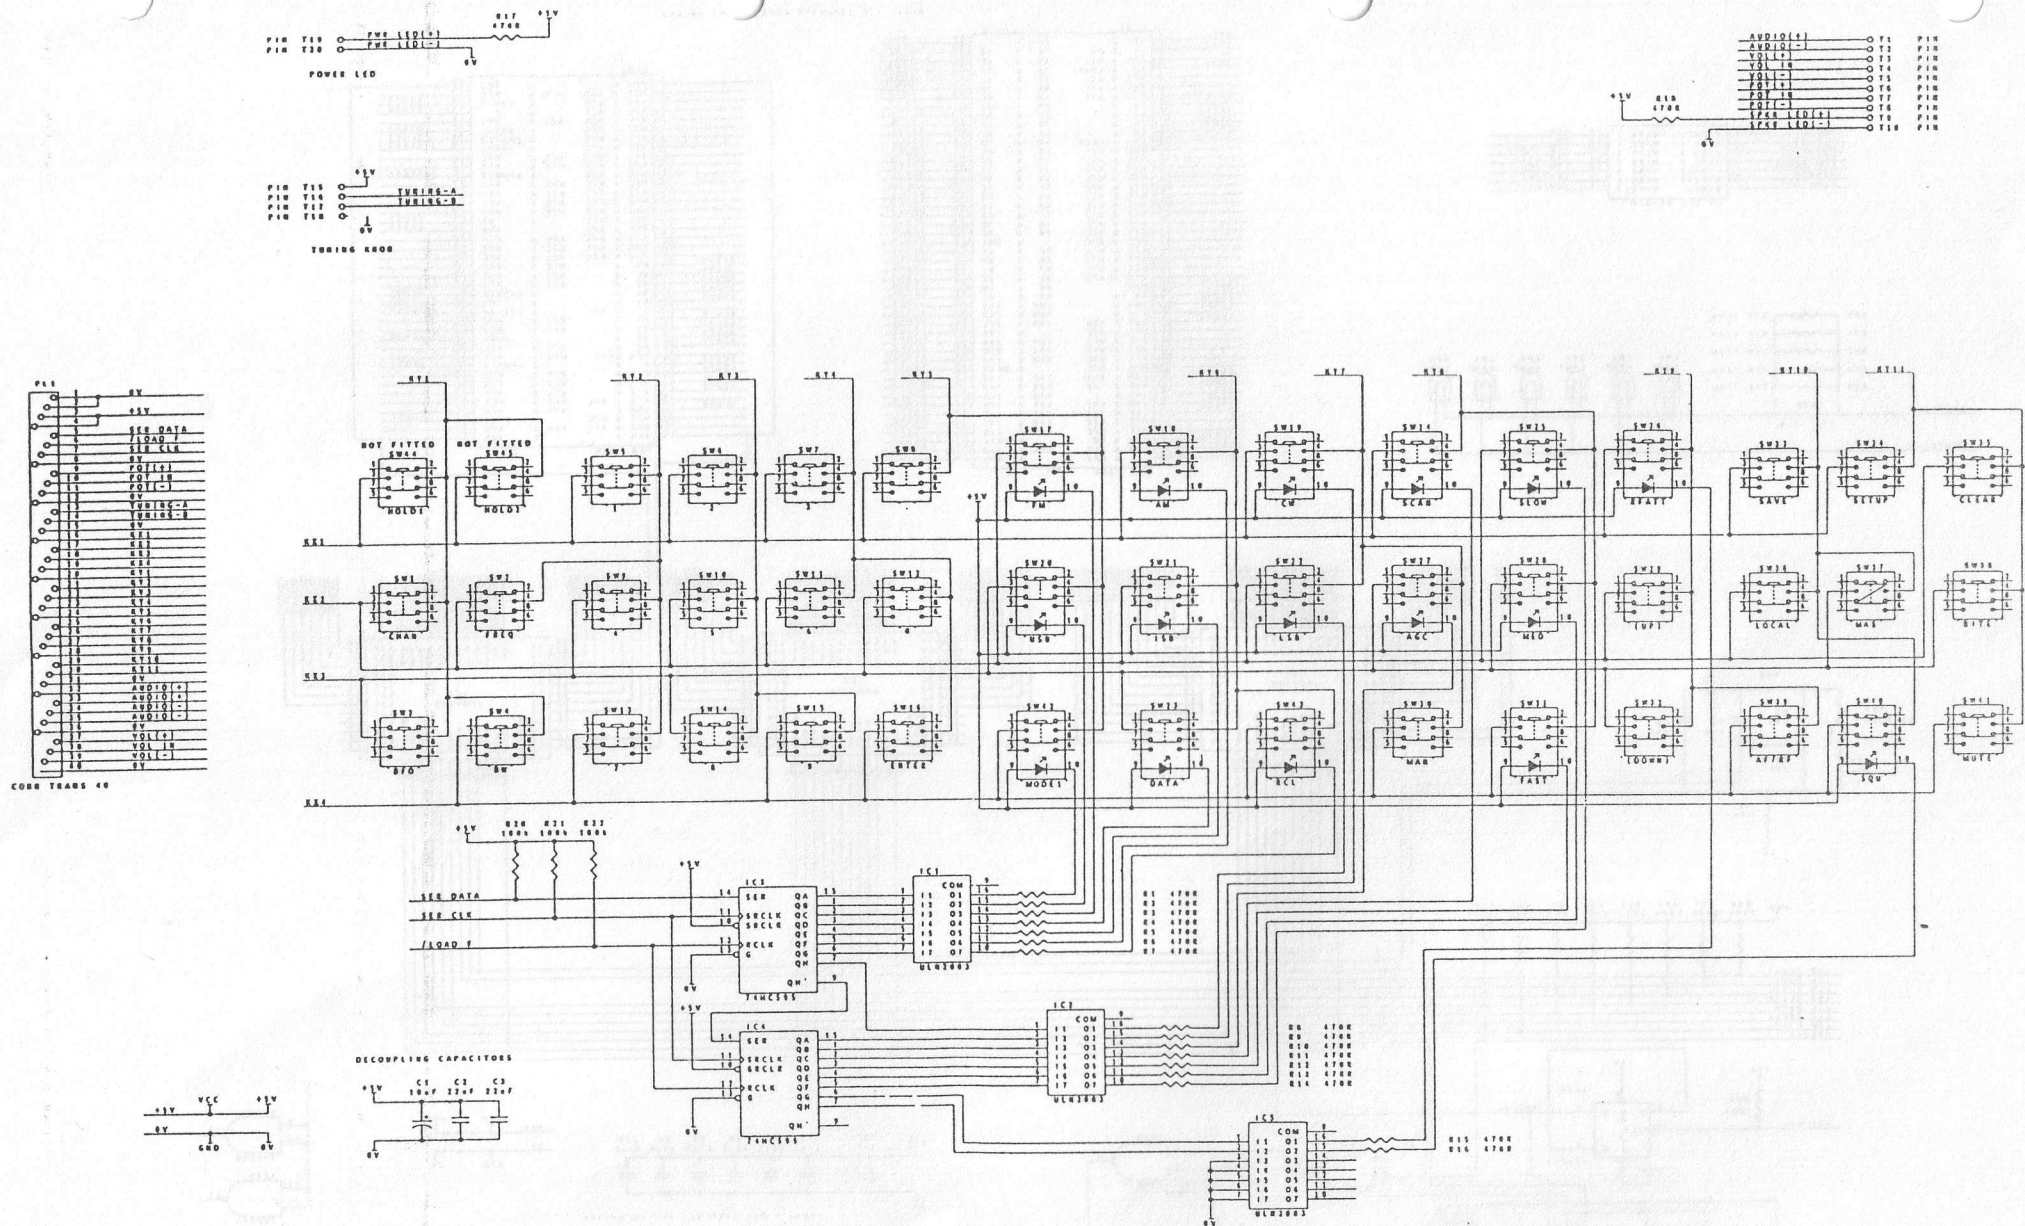

Figure 8 - Keyboard Assembly Circuit Diagram
- Figure 8 RF Backplane Layout Diagram